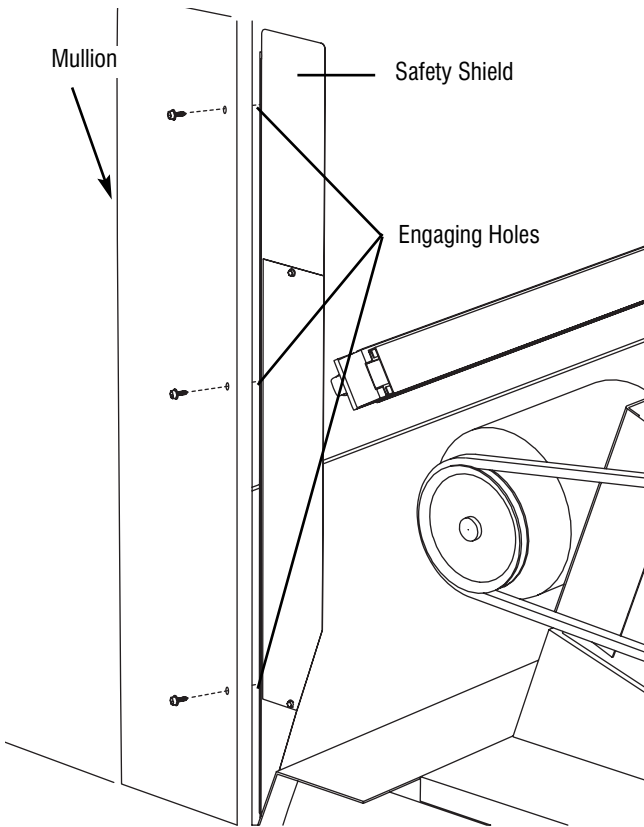

Fig. 9 Mount safety shield in blower compartment.
2. Mount shield to frame with included sheet metal screws. (Fig. 9)